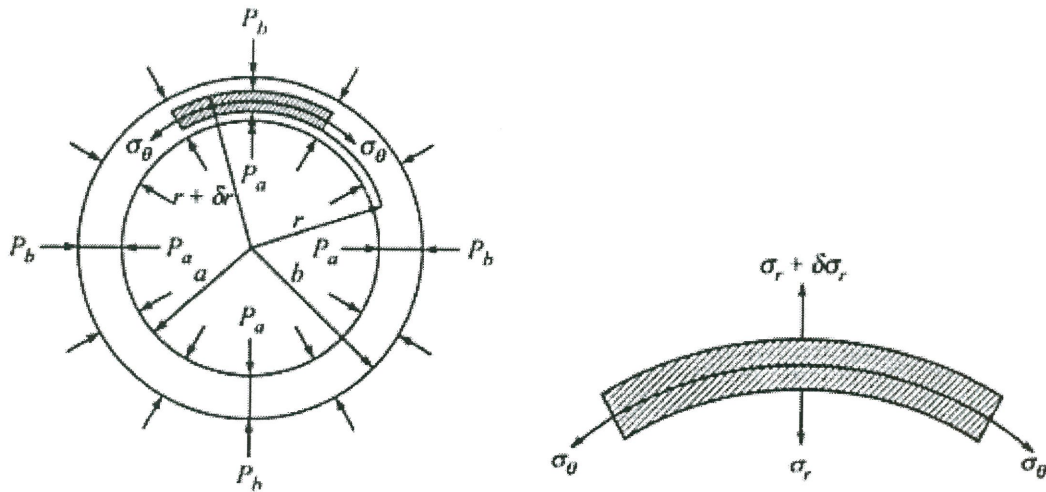

Figure Q3
- Q3.** (a) Based on **Figure Q3**, derive and prove that the Hoop Stress,  $\sigma_H$  and the Radial Stress,  $\sigma_R$  can be expressed follow